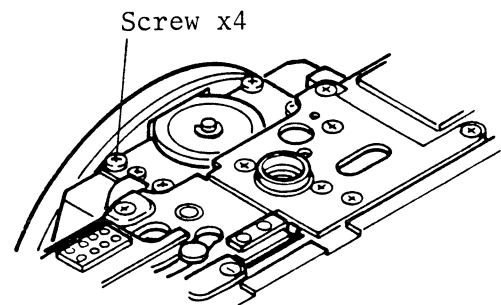

Fig.36
1. Adjustment is made by moving the M1100-21501 A printed board after loosening its four screws. (Fig. 36)